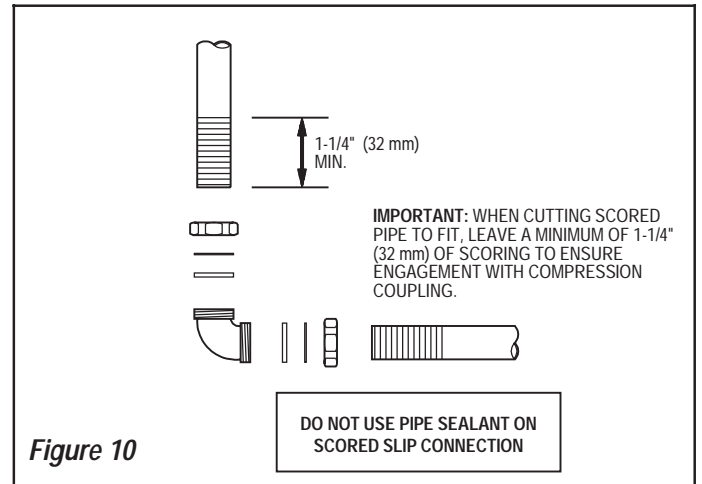

Figure 10
**Step 3 — Install Vacuum Breaker Flush Connection (Figure 10)**
*Note: When cutting scored pipe to fit, leave a minimum of 1-1/4" (32 mm) of scoring to ensure engagement with compression coupling. See Figure 10.*